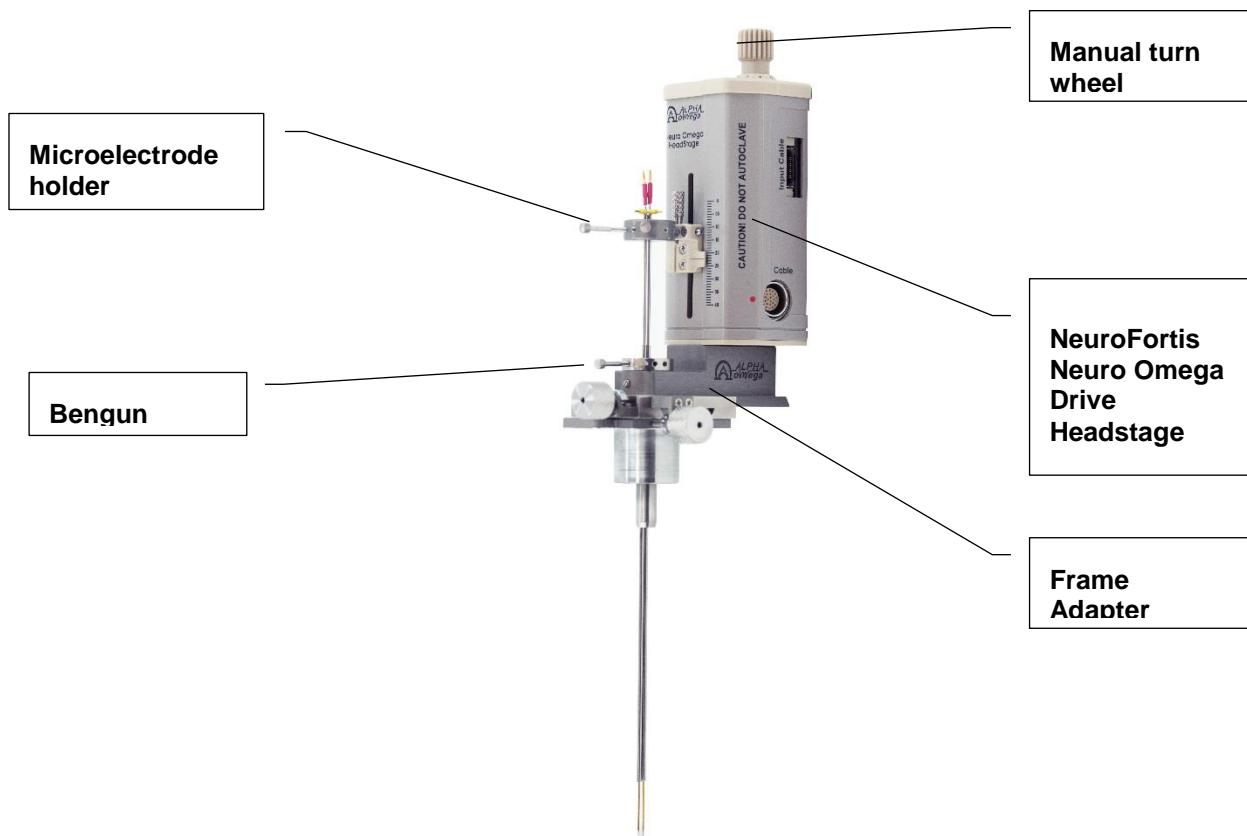

Figure 9: NeuroFortis Neuro Omega Drive Headstage Module
- The Drive Headstage and the components comprising the Drive Headstage module appear in Figure 9